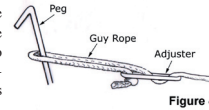

Figure 4
10. Unravel the guy ropes and loosely peg out each one ensuring that they are all pegged directly in line with the seam or pole to which they will apply tension and support. Once this is achieved tighten the adjusters so that equal tension is applied to each guy point (see figure 4).